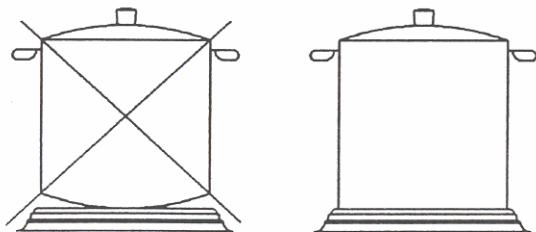

FIG. 7
- To always use pans with flat and very thick bottoms (see fig. 7).